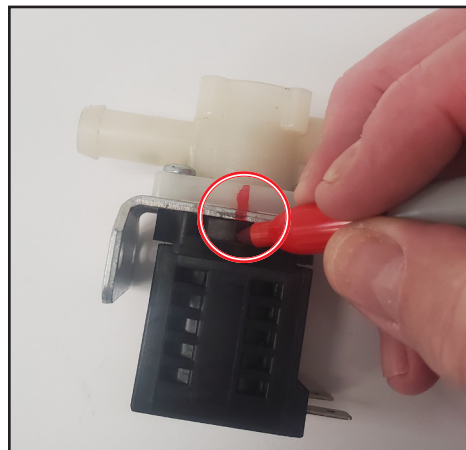

Fig. 1. Draw a reference line down all pieces.
1. With a drawing tool, draw a reference line down all pieces to aid in reassembly. See fig. 1.